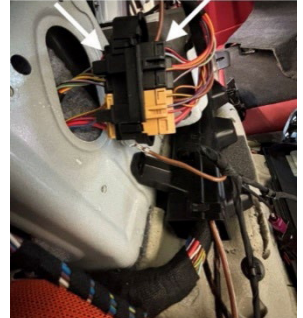

Figure 14. Driver-side C-Pillar Connector
2.3.4 Rear lid connection point area, driver-side c-pillar (Figure 14)